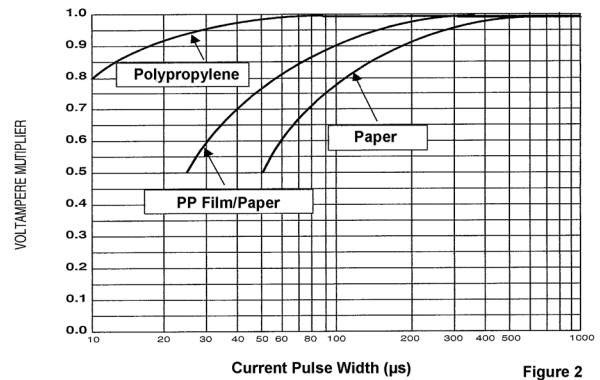
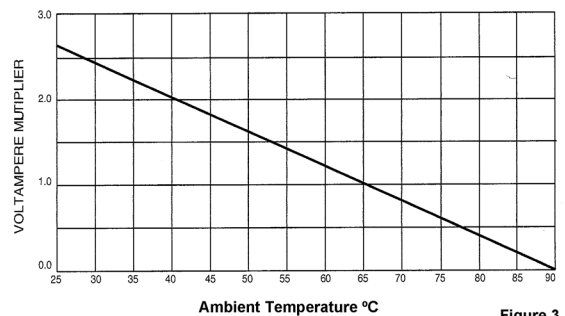

Figure 2
Figure 3
- Maximum volt-amps (VA)
4. Check that your application's volt-amperes is not more than the capacitor's VA capability. The VA capability is the max VA rating times the Volt-Ampere multiplier from Figure 2 (Current Pulse Width) and that times the Volt-Ampere Multiplier from Figure 3 (Ambient Temperature). See the following section for more on using volt-ampere multipliers.
The capacitor's maximum VA rating is the maximum product of the sine wave voltage and current that may be applied at 65 °C without overheating the capacitor and reducing its expected life. For other temperatures and pulsed current, use the multipliers of Figures 2 and 3 to derate the Max VA rating.